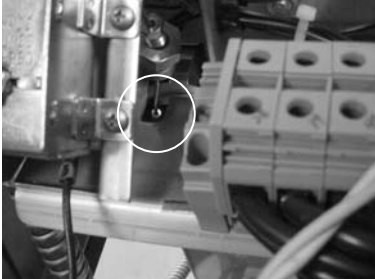

Figure 2-69
6. Straighten the capillary tube on the new high limit, and thread the capillary tube through the hole in the element hinge. Figure 2-69.